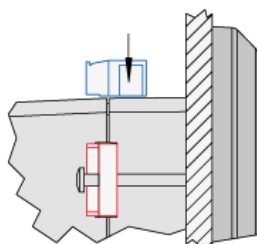

Fig. 17: Reattach terminals
7. ➔ Reattach the wire connection terminal strip (Fig. 17) and secure them with the side screws.